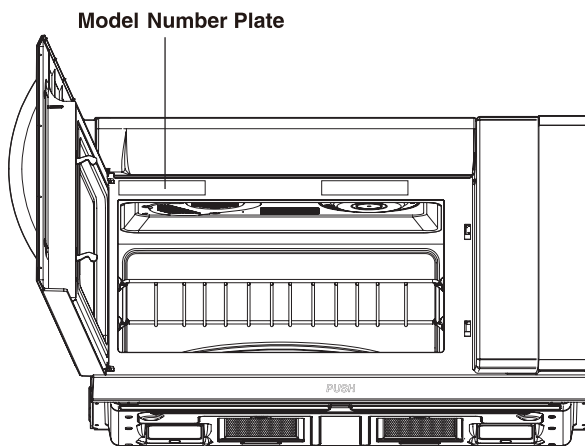
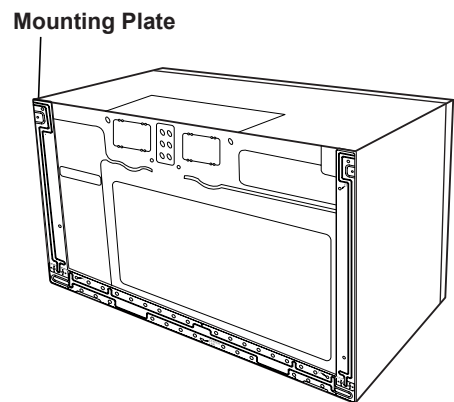

Figure 1
Figure 2
- Read the entire manual before you begin. The Model number label is located on the front of oven, behind door See Figure 1. Mounting plate is located on back side of microwave oven. See Figure 2.